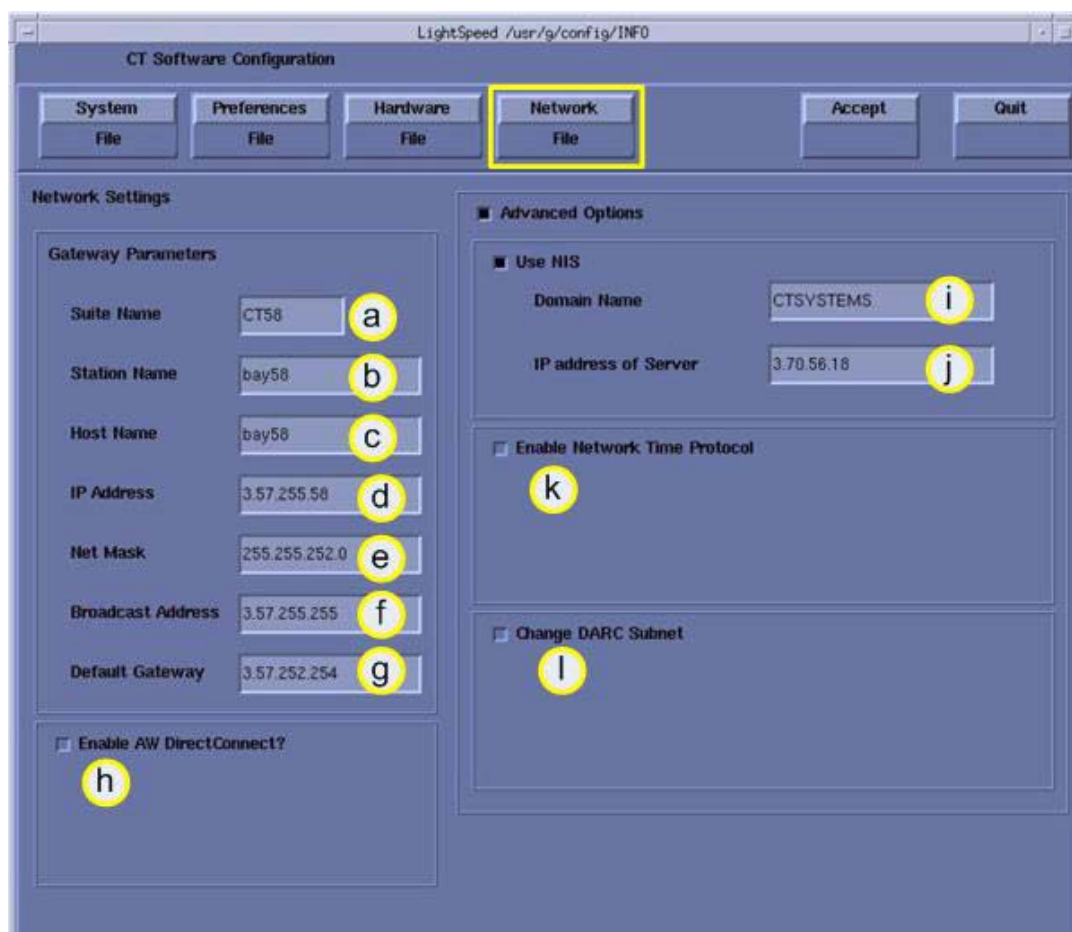

Figure 6-9 Network Settings Screen:
- 10.) Click the **NETWORK** button to display the Network Settings Screen, as shown in Figure 6-9.